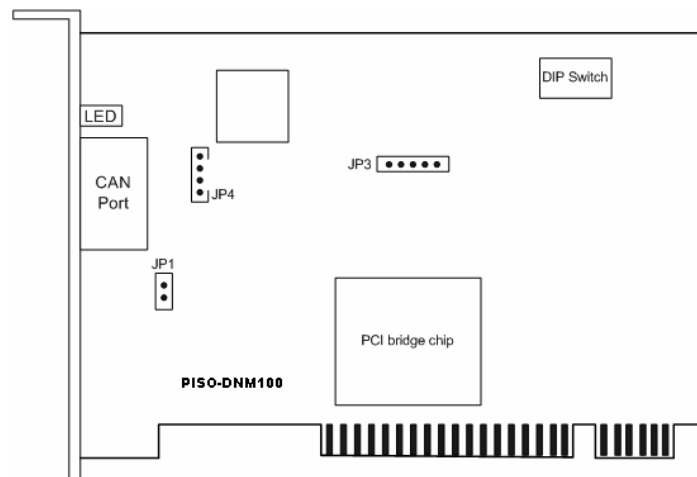
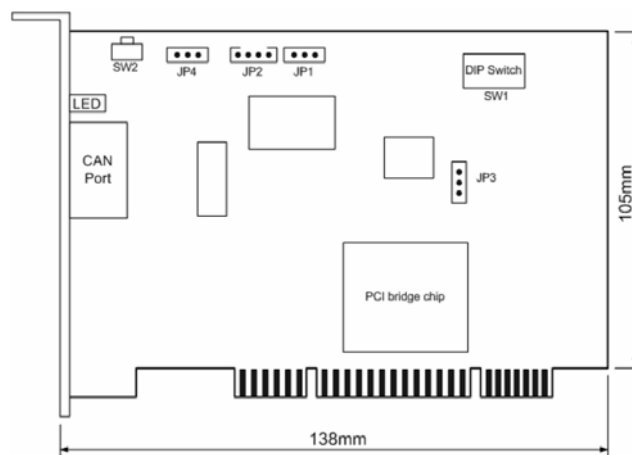

Figure 2.1 PISO-DNM100 Board Layout
Figure 2.2 PISO-DNM100U Board Layout
2. Configure the DIP switch and JP1 of your PISO-DNM100-D/T for board No. and terminal resistance. More detail information could be found on the figure 2.1 and table 2.1. For the PISO-DNM100U-D/T, configure the DIP switch and JP4 of your PISO-DNM100U-D/T for board No. and terminal resistance. More detail information could be found on the figure 2.2 and table 2.2.